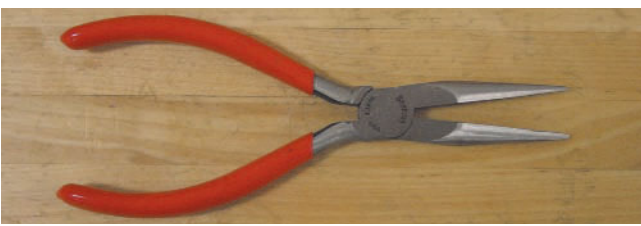

Figure 14-37 Needle nose pliers.
- Needle nose pliers (Figure 14-37)